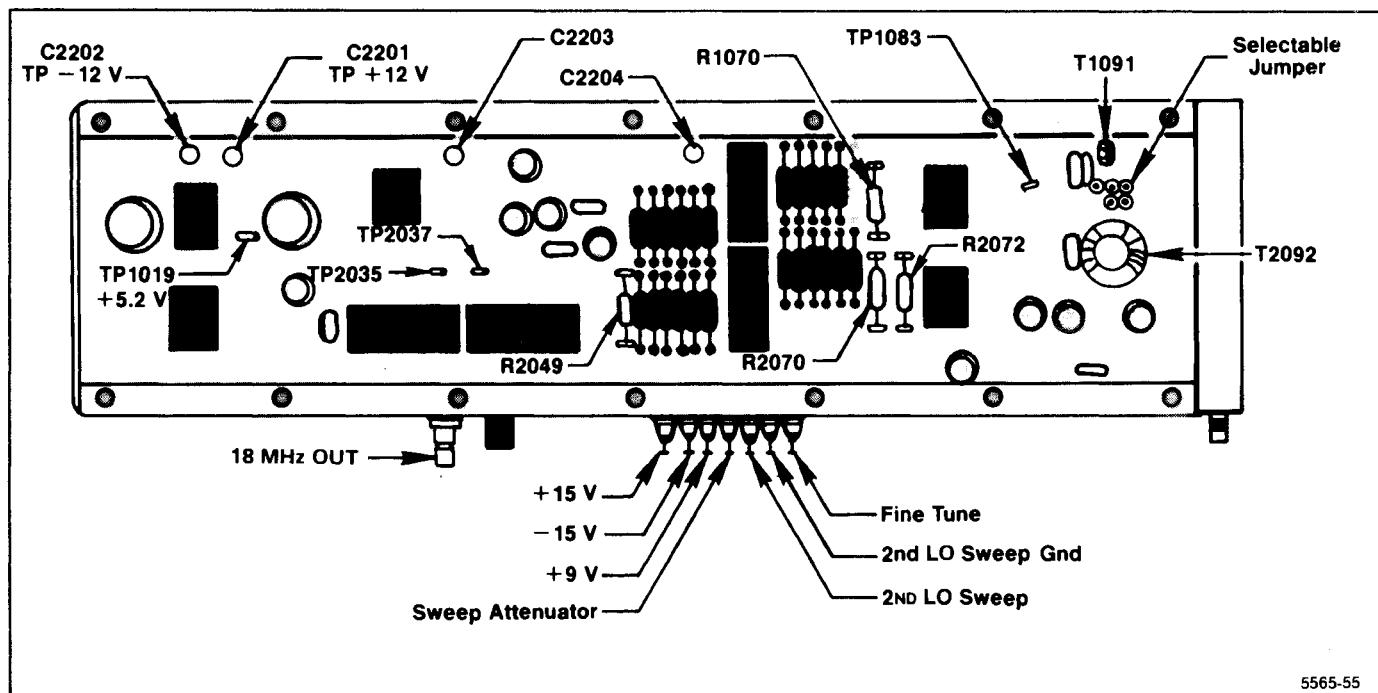
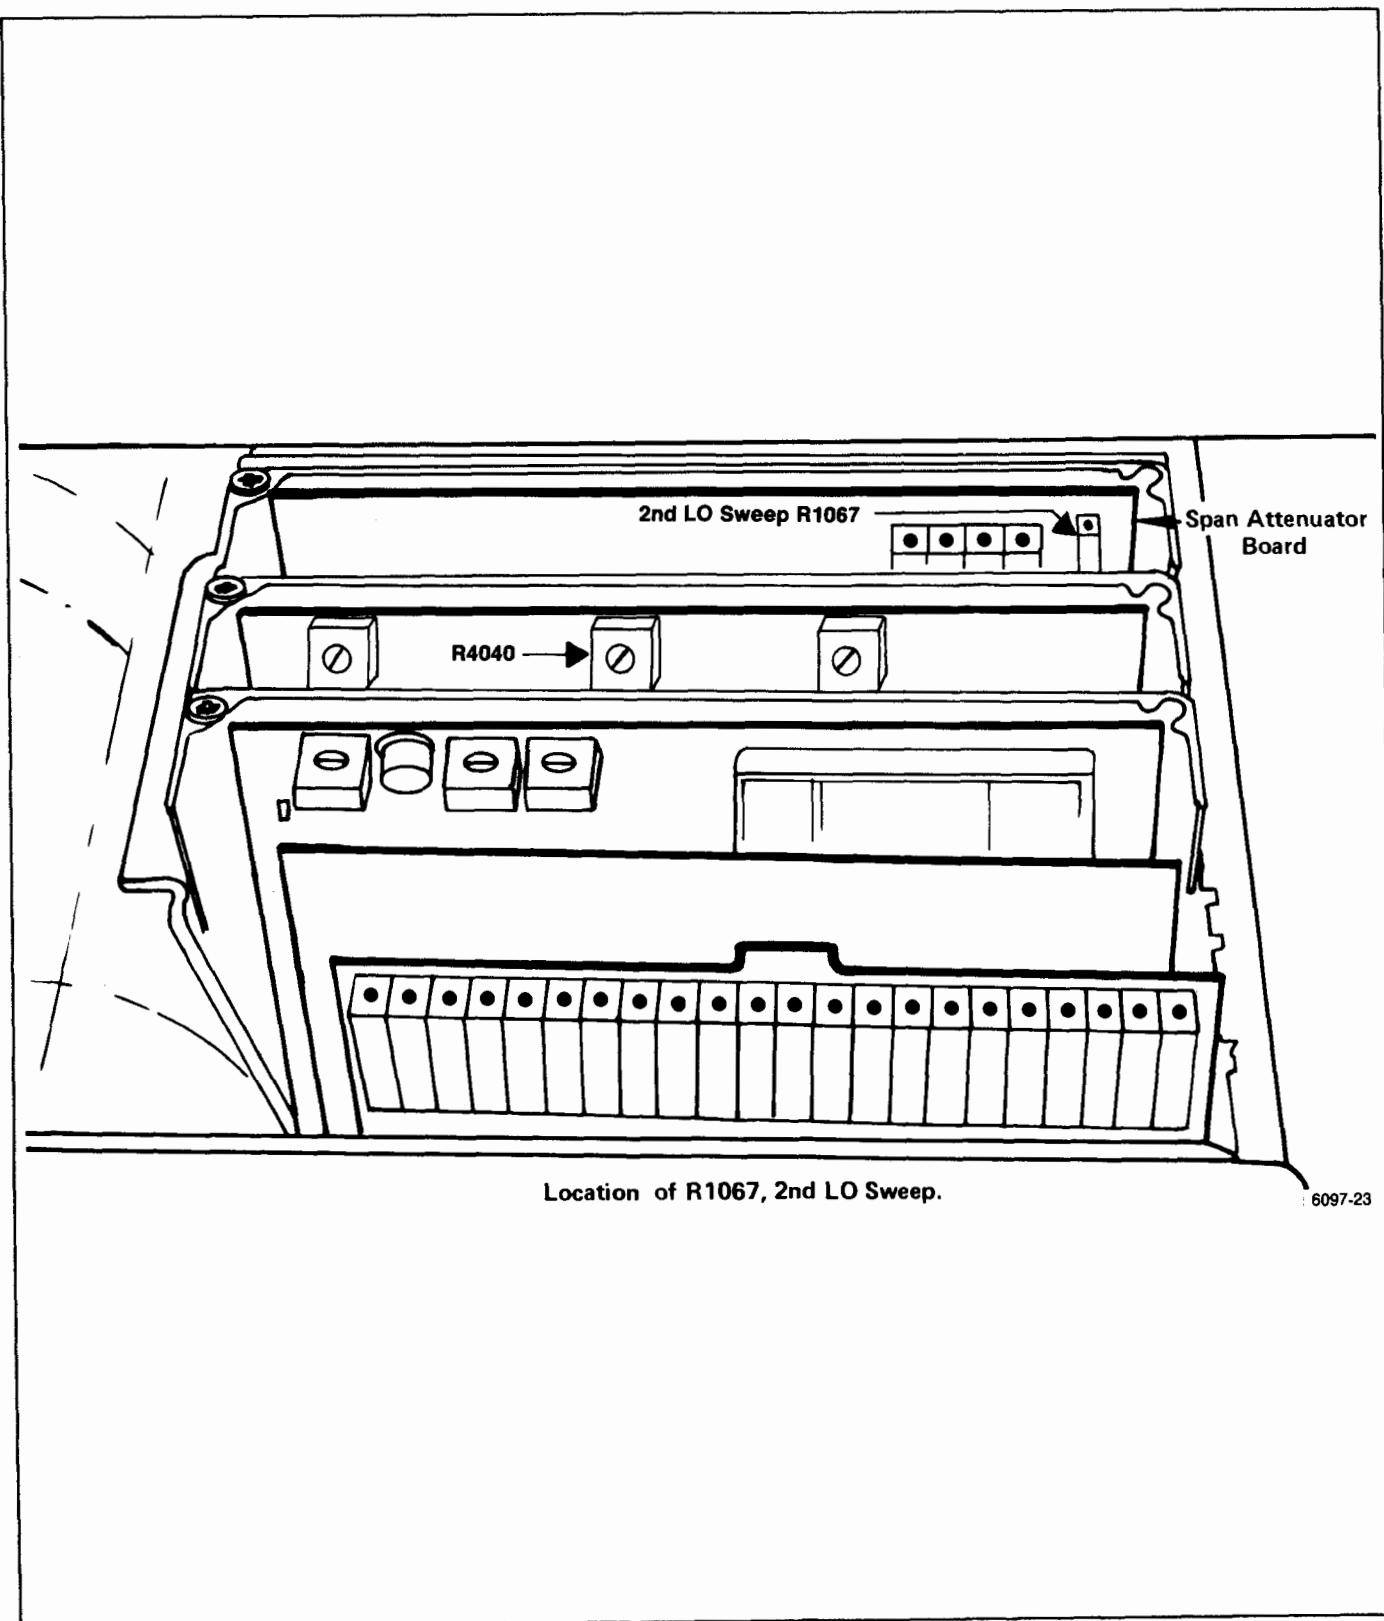

Figure 6-20. 16—20 MHz Phase Lock circuit test point and component locations.
Figure 6-24. Tune and Sweep Range adjustments.
Remove the 14 screws that hold the cover on the mu-metal section and remove the cover. Unsolder the leads to feedthrough capacitors C2203 and C2204. (These are the center two feedthrough terminals that feed through the circuit board, as shown in Figure 6-20.)
4. Remove the mu-metal lid and reconnect the leads to feedthrough capacitors C2203 and C2204, on the Phase Lock board (Figure 6-20). Replace the lid and install the 14 screws. Tighten the screws from the
This side of the assembly contains the 16-20 MHz Phase Lock circuit board (see Figure 6-20). Replacing oscillator components in this section may alter sweep linearity and frequency of the 16-20 MHz oscillator. The following checks and calibration should aid in repairing and returning the assembly to satisfactory operation.
- Check all input voltages at the feedthrough capacitors in the housing wall. Refer to Figure 6-20 or the data printed on the lid. The voltage LEVEL at the sweep and tune input lines should be  $0 \text{ V} \pm 0.05 \text{ V}$  with the FREQ SPAN/DIV  $\geq 500 \text{ kHz}$ .
- Switch POWER on, then check the internal regulated voltages;  $+12 \text{ V} \pm 0.4 \text{ V}$  at C2201,  $-12 \text{ V} \pm 0.4 \text{ V}$  at C2202, and  $+5.2 \text{ V} \pm 0.25 \text{ V}$  at TP10109 (see Figure 6-20). Check the output of the shaper at TP1083 for a level between  $+0.3 \text{ V}$  and  $-0.3 \text{ V}$  ( $0 \text{ V} \pm 0.3 \text{ V}$ ).
- Center the Fine Tune adjustment R4040, on the Center Frequency Control board and the 2nd LO Sweep adjustment R1067, on the Span Attenuator board (Figure 6-24).
- Press **<SHIFT> 7** to disable frequency correction; then press **<SHIFT> 0**, and select item 0 from the menu. Now select frequency display of 2nd LO (2). Readout will now indicate the 2nd LO frequency.
- Tune the 2nd LO to one end of its range where the frequency readout no longer changes. Note the frequency and measure the voltage on the Tune Line at the input feed-through capacitor (Figure 6-20).
- Adjust the 2nd LO Sweep R1067, on the Span Attenuator board (Figure 6-24), so the comb lines on opposite sides of the screen, are exactly 8 major divisions apart.
(1) A shaper diode or resistor may be defective if the comb line spacing is consistent for part of the tuning range and 30 kHz or more off for the other parts of the sweep. To test the diodes for forward conduction, tune to the low end of the range and short R2049 (Figure 6-20). The output of U1073A (pin 1) should equal about +3 V. U1059 diodes B through G and U2059 diodes A through F should all have a 0.48 V forward drop. Use a floating or digital voltmeter to check the drop.
(2) Turn POWER off then temporarily replace Shaper resistor R2049 with a 20 k $\Omega$  potentiometer. Switch POWER on, and adjust the potentiometer to obtain the best overall linearity; decreasing resistance will decrease the spacing between comb lines in the upper portion of the tune range and spread the spacing for the lower portion. Increasing the resistance of R2049 will reverse the effect. When